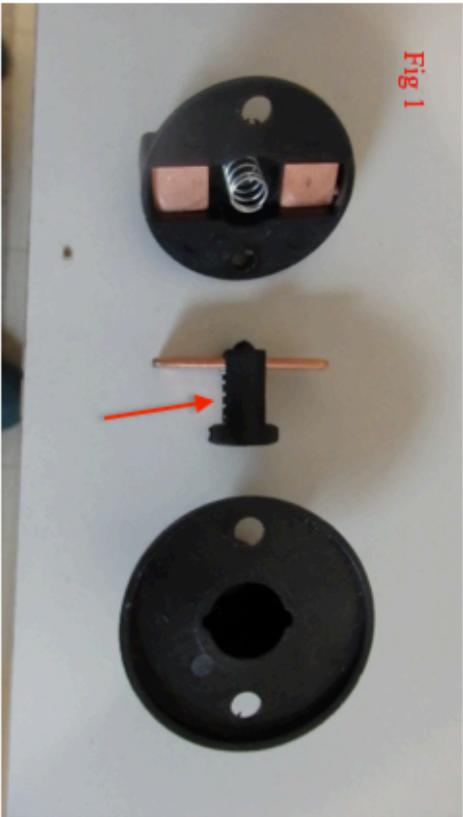

Fig 1
The rivets were drilled out and the picture shown in Figs 1 to 4 show the internal arrangement of the switch. The following points were found:-
(2) There are two springs and the spring visible in Figs 1,2, and 4 is of lower strength than the spring partly hidden in Fig1, shown by the red arrow. The lower strength spring clearly helps the contacts to part when the switch is turned off and the partly hidden stronger spring in Fig 1 forces the contacts together when the switch is operated to close.